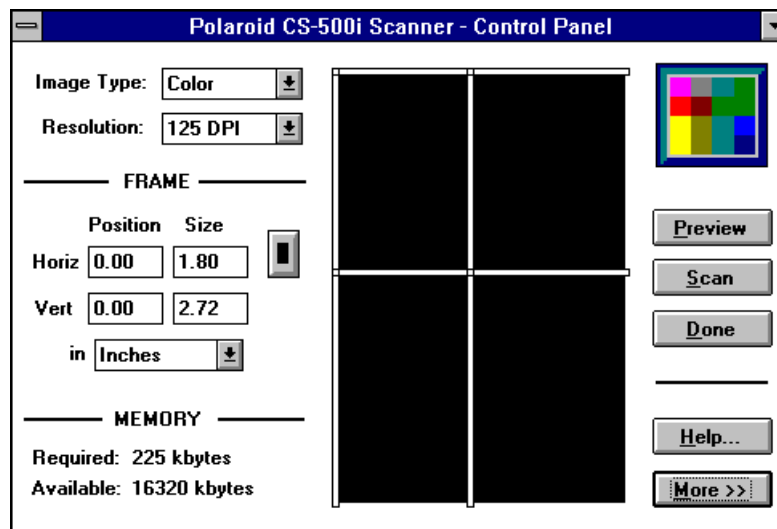

Figure 4-26. Scanner Control Panel
3. Start the ID-4000 application, create a new record, and choose the Capture button to display the scanner control panel (Figure 4-26).